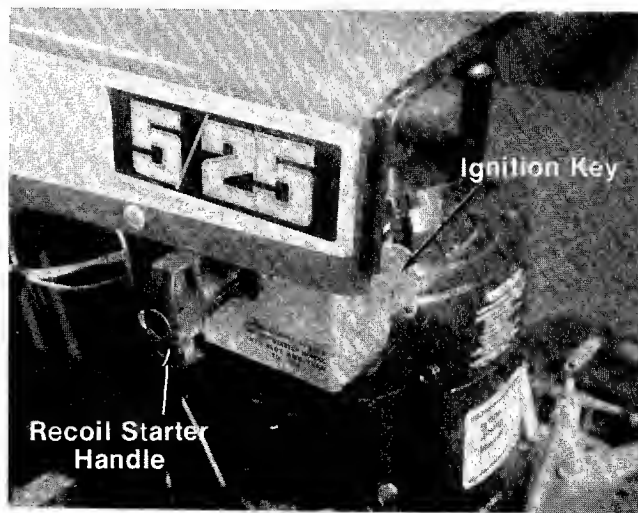

FIGURE 12.
B. The Recoil Starter Handle is located on the left hand side of the hood. To operate the Recoil Starter Handle, twist it until it is in the horizontal position and pull to start the engine. After the engine starts, return the Recoil Starter Handle to the mounting bracket and turn it to the vertical position as shown in figure 12.
C. The Ignition Key must be turned to the right to the "ON" position before the Recoil Starter Handle is pulled to start the engine. Turn the Ignition Key to the left to the "OFF" position to stop the engine. See figures 12 and 13.
8. Turn the Ignition Key to "ON" position. See figure 12.
9. Twist the Recoil Starter Handle until it is free and pull it with a quick steady motion. After the engine starts, return the Recoil Starter Handle and twist it until it locks. See figure 12.